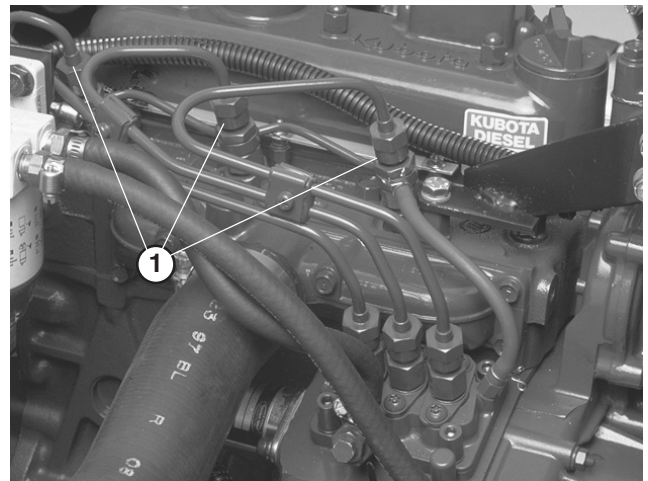

Figure 52
- Loosen the pipe connection to the No. 1 nozzle and holder assembly (Fig. 52).